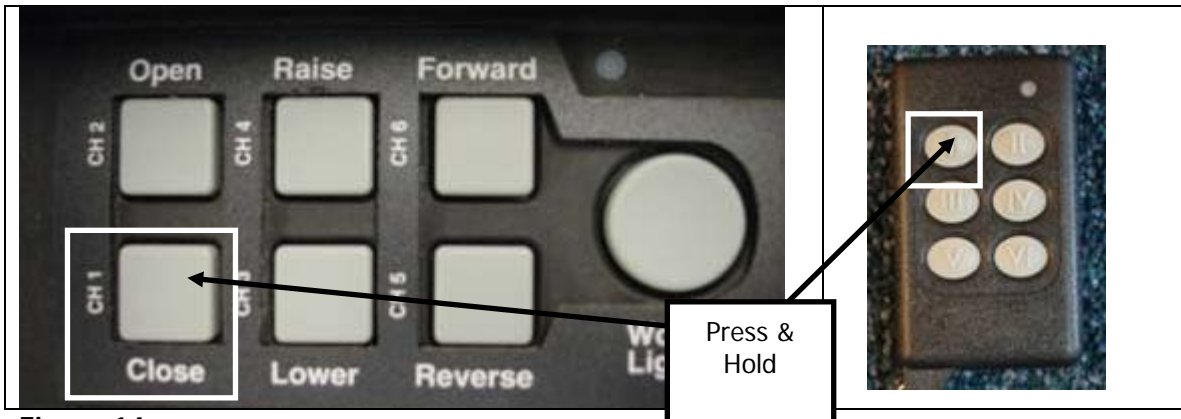

Figure 14
- 1) Loosen the tarp, uncoil several feet of tarp. To loosen the tarp press & hold button 1 on the control box or the key fob (see Fig 14).